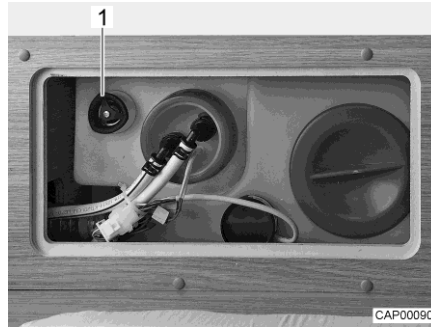

Fig. 62 Water tank with rotary handle
- Turn the rotary handle (Fig. 62,1) on the water tank in an anticlockwise direction as far as possible beyond the resistance to fully open the drainage opening.